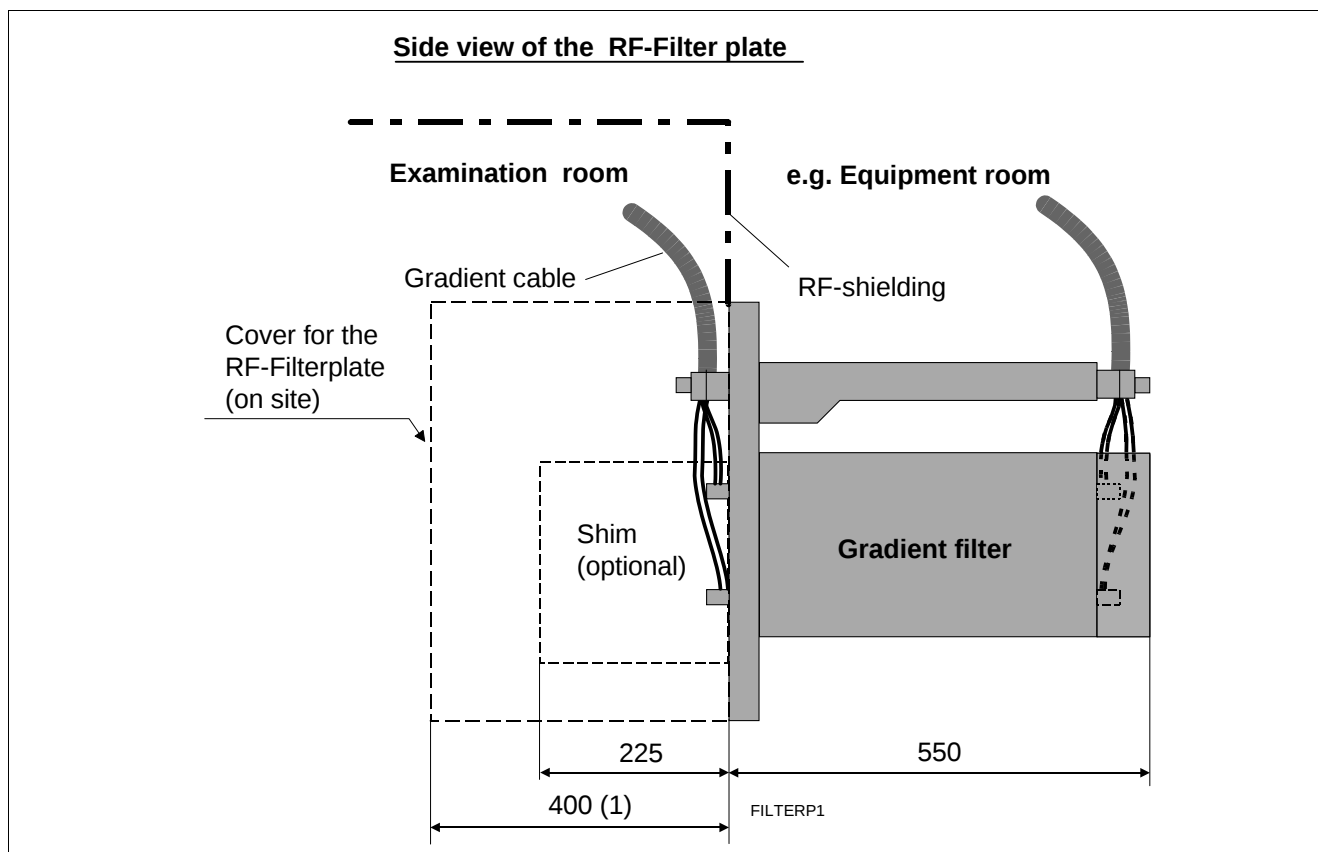

Fig. 23 Dimensions of the RF filter plate (side view)
(1) If you want to install a cover around the RF-Filterplate inside the examination room (not part of the delivery) it is necessary to keep a distance of 400 mm (Fig. 23) to allow a proper cabling.